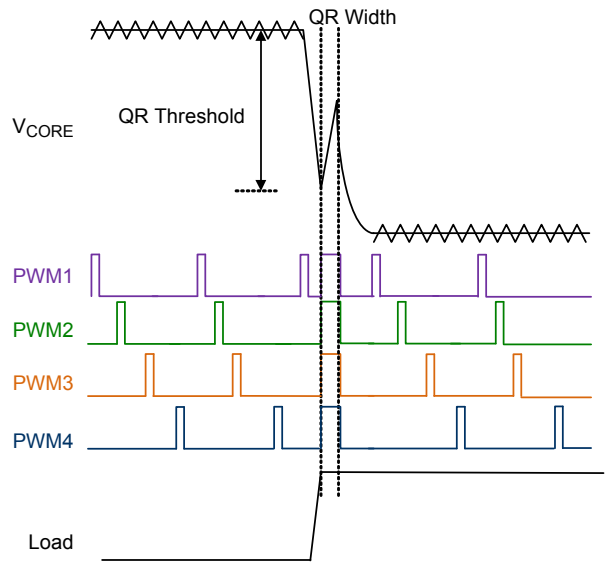
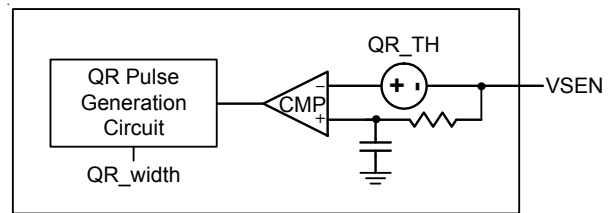

Figure 21. Quick Response Mechanism
Figure 22. Simplified QR Trigger Schematic
When the transient load step-up becomes quite large, it is difficult for loop response to meet the energy transfer. Hence, that output voltage generate undershoot to fail specification. The RT3607HP has Quick Response (QR) mechanism being able to improve this issue. It adopts a nonlinear control mechanism which can disable interleaving function and simultaneously turn on all UGATE one pulse at instantaneous step-up transient load to restrain the output voltage drooping. Figure 21 shows the QR behavior.
The output voltage signal behavior needs to be detected so that QR mechanism can be triggered. The output voltage signal is via a remote sense line to connect at the VSEN pin which is shown in Figure 22. The QR mechanism needs to set QR width and QR threshold. Both definitions are shown in Figure 21. A proper QR mechanism set can meet different applications. The SET2 can set QR threshold and QR width by internal current source 80μA with multi-function pin setting mechanism.